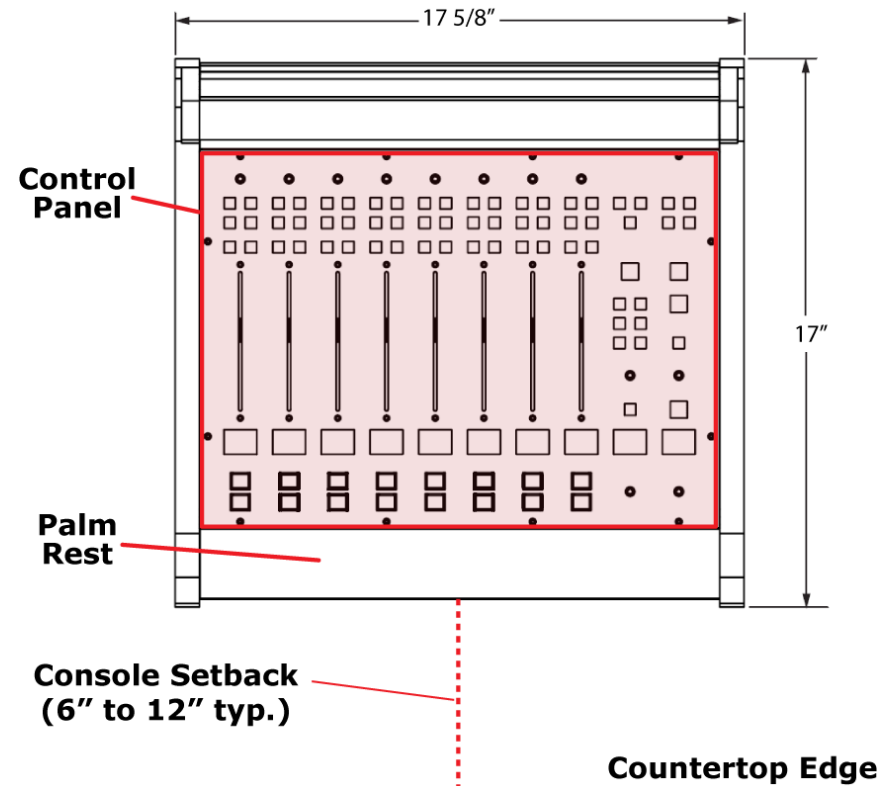

Figure 2-1 DMX-8 Surface, Countertop Positioning
The DMX Surface is intended to set on top of the studio furniture countertop with its palm rest between six and twelve inches (15 to 30 cm) from the edge of the countertop (Figure 2-1). This "setback space" allows keyboards and mice, a VoxPro controller, copy, log sheets, etc. to be set in front of the console.
2. Use a pencil to mark the countertop at the center of the front edge of the palm rest (for the DMX-8, this is the center line between fader channels 5 and 6, as shown in Figure 2-1).
If the DMX Surface must be fastened to the countertop for security reasons, the two front feet from the chassis must be removed. The Surface's control panel (identified in Figure 2-1) must also be removed. Two #6 screws, with oversize washers and lock washers, are required. Their length must extend through the countertop, from below, and go through the two front feet with just enough thread left to fasten to the chassis. The two screws must not extend over 1/4" into the chassis when tight to avoid contacting the control panel circuit board or internal cabling.